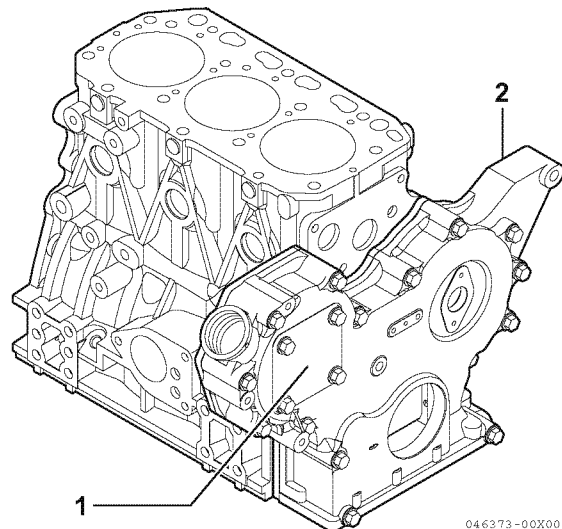

Figure 7-10
13. Remove the fuel injection pump drive gear cover (**Figure 7-10, (1)**) from the gear case cover (**Figure 7-10, (2)**).